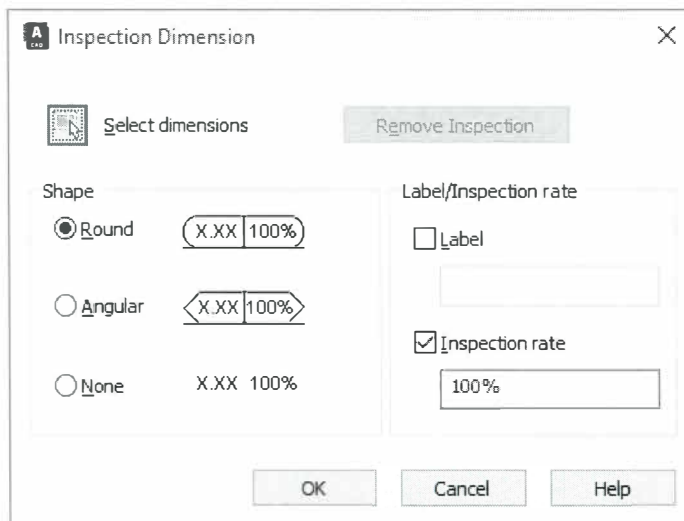

Figure A-14
1. In the *Annotate* tab>Dimensions panel, click  (Inspect). The Inspection Dimension dialog box opens as shown in Figure A-14.